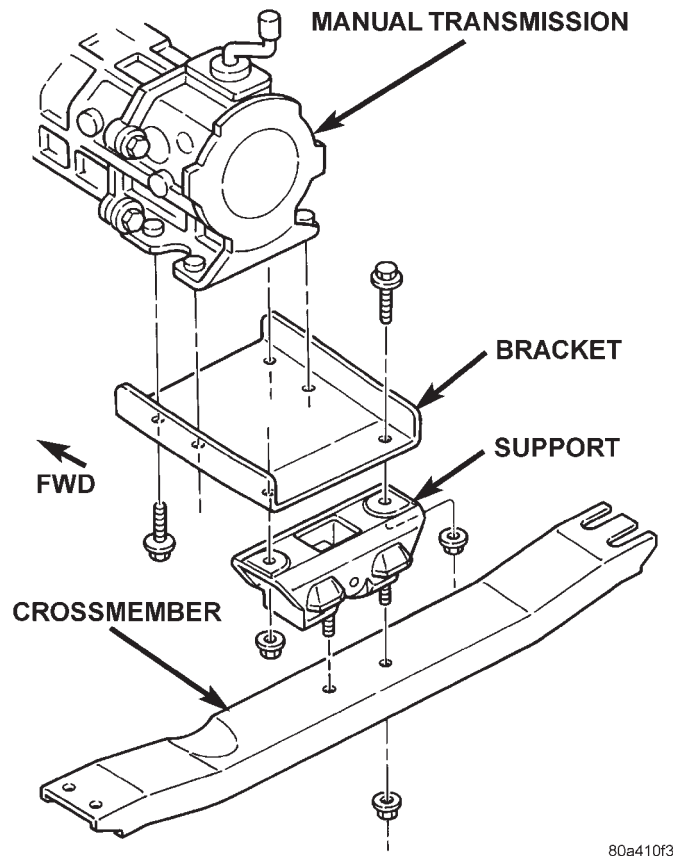

Fig. 9 Rear Mount
- (1) Disconnect negative cable from battery.
- (2) Raise the vehicle and support the transmission.
- (3) Remove the nuts holding the support cushion to the bracket (Fig. 9). Remove the crossmember.